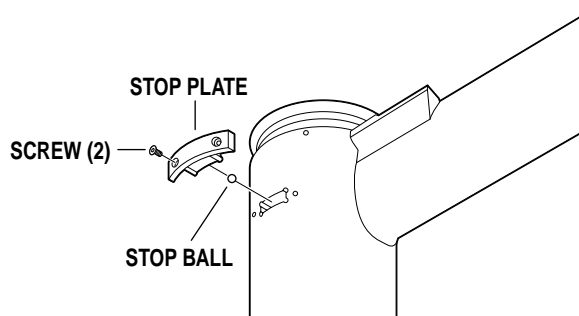

Figure 16.
b. To alter the stop position, refer to figure 16 and use the following procedures: